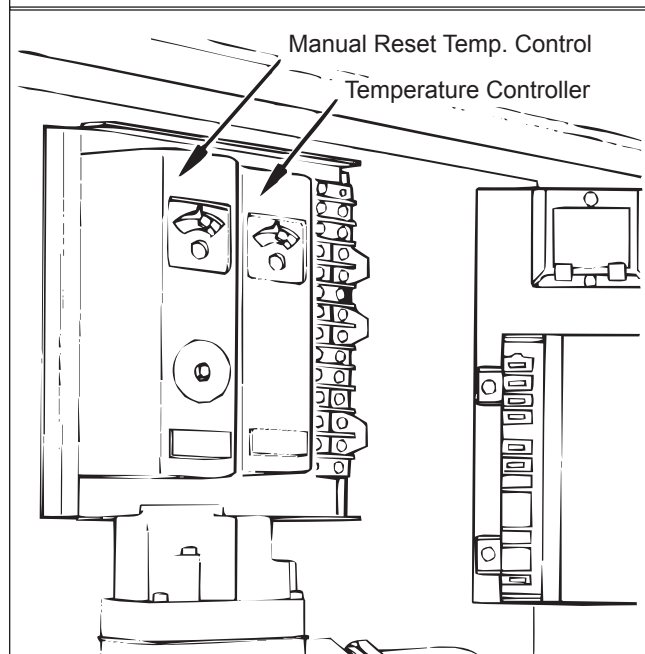

Figure 30. Temperature controls.
3. Set the temperature control (see Figure 30) to its lowest setting.